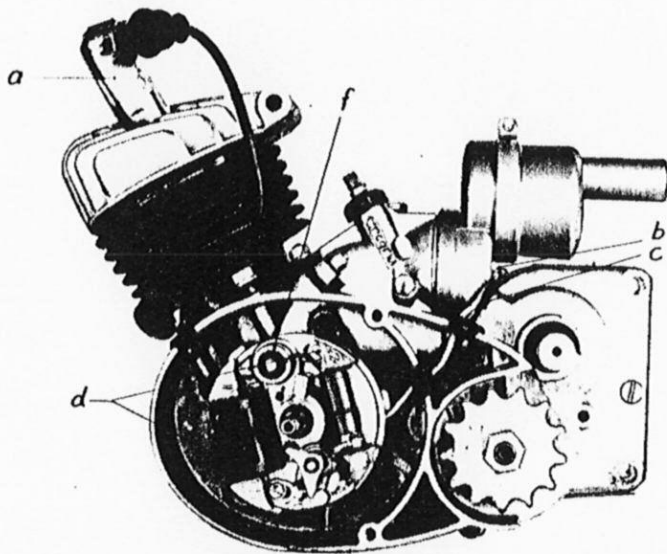

Fig. 13
- remove centre nut with socket spanner (265071) 14 mm whilst holding flywheel stationary with special key (265072)
- remove sparking plug cap from cable (fig.13(a))
- remove lighting and ignition cut-out cables from connecting piece (fig.13 (b)&(c))